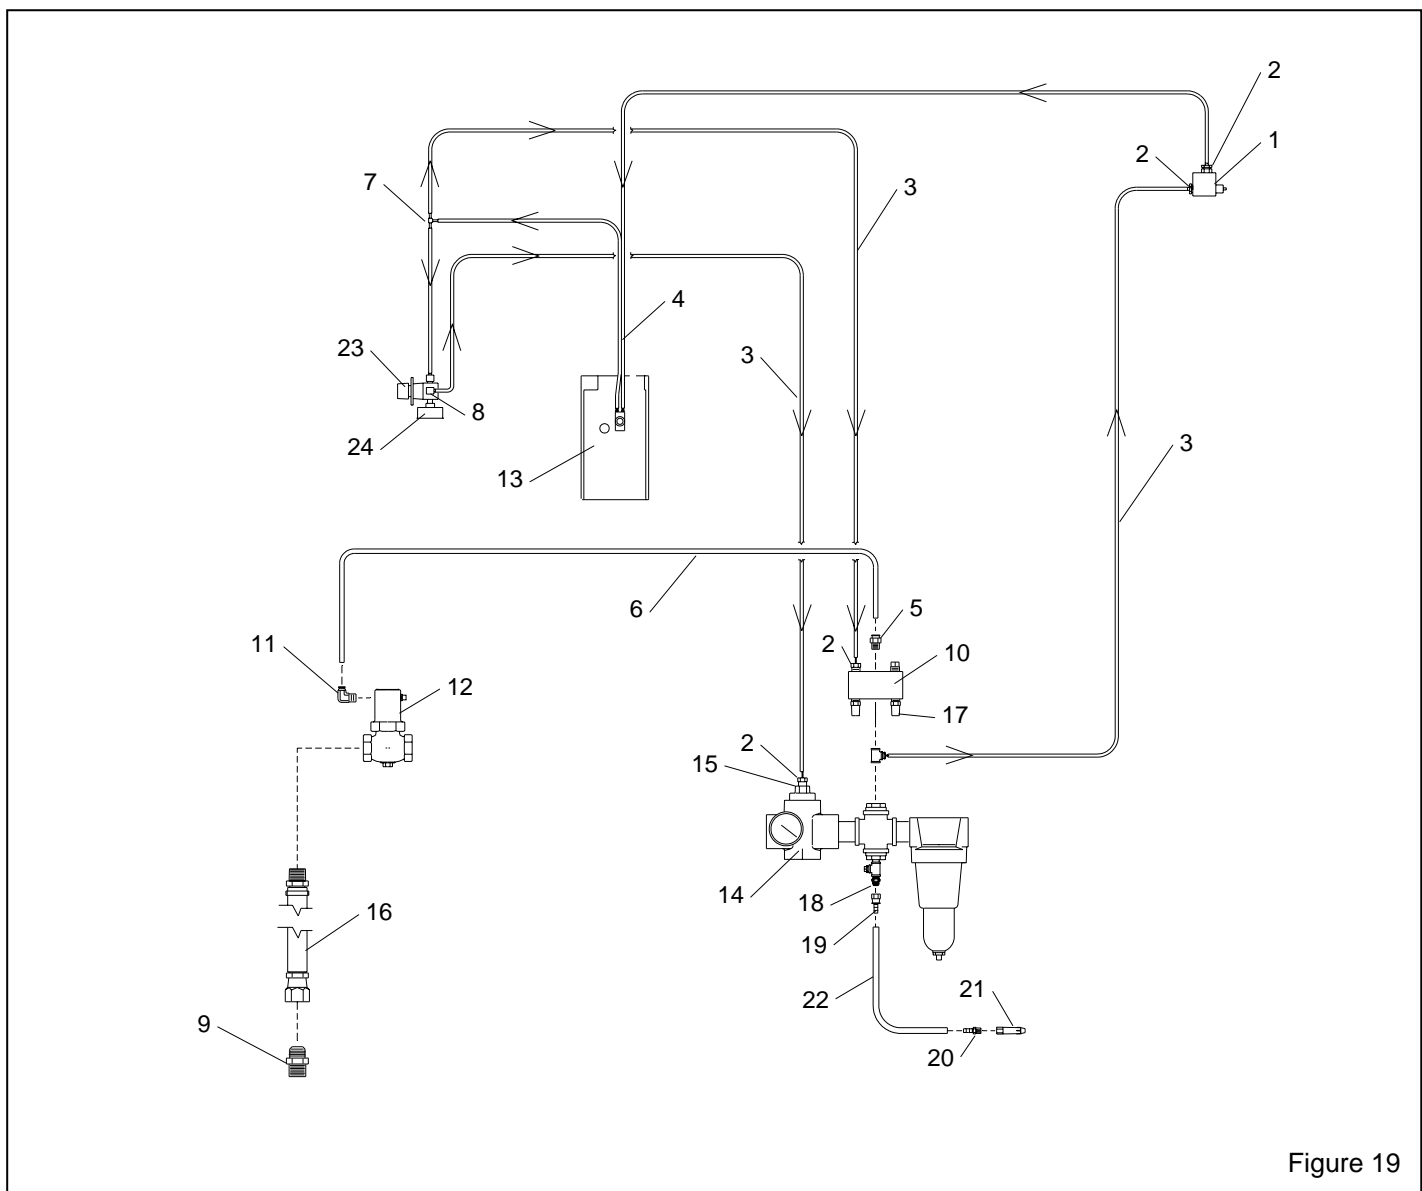

Figure 19
9.3 Plumbing Assembly, Figure 19